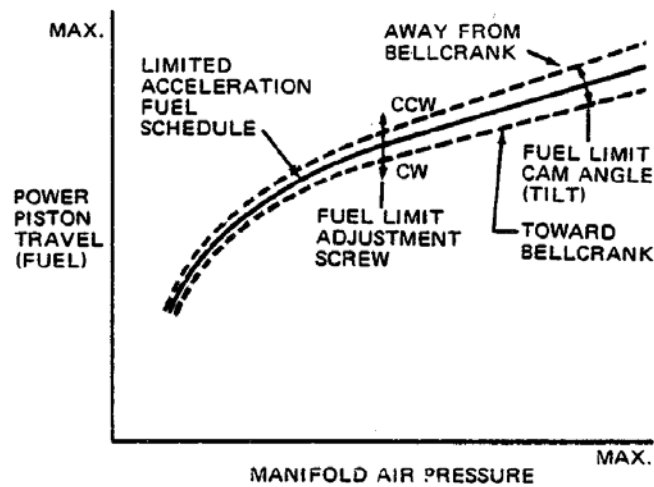

Figure 4-3. Typical Effects of Fuel Limit Adjustment Screw and Fuel Limit Cam Angle (Tilt) on Fuel Limiting Schedule
20. Following any adjustment of the fuel limit cam, the low end of the fuel limiting schedule must be re-checked and readjusted as necessary. Repeat steps 15 through 19 until no further adjustment is required at either end of the fuel limiting schedule. Figure 4-3 illustrates the interrelationship and individual effects of the fuel limit adjustment screw and fuel limit cam angle (tilt) on the fuel limiting schedule. An adjustment of the fuel limit screw will raise (or lower) the schedule a like amount over its entire length. An adjustment of the fuel limit cam will alter the slope of the schedule with the greatest change occurring at the high end. The contour of the schedule is a reflection of the cam profile and may be non-linear as illustrated or linear (straight line).